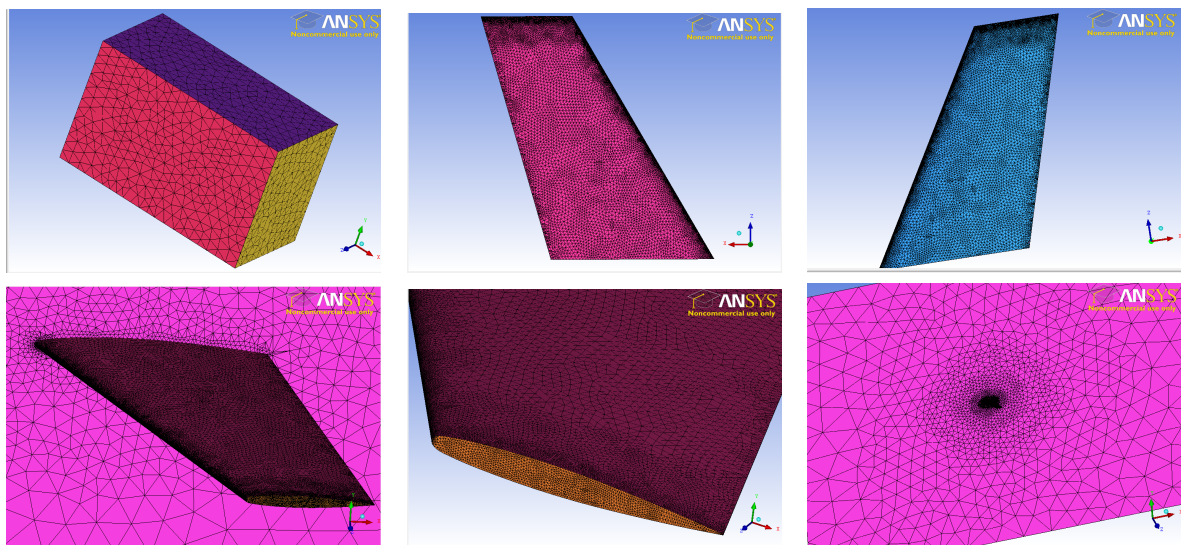

Figure 2.10: A fine mesh
■ **Attempt 2.7** The final attempt is just the refined version of mesh 6 and is shown in figure 2.10. It contains 776,741 cells and 151122 nodes.